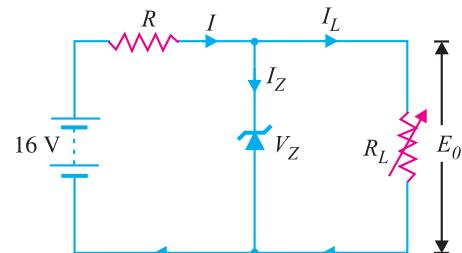

Fig. 6.69
**Example 6.33.** In the circuit shown in Fig. 6.69, the voltage across the load is to be maintained at 12 V as load current varies from 0 to 200 mA. Design the regulator. Also find the maximum wattage rating of zener diode.